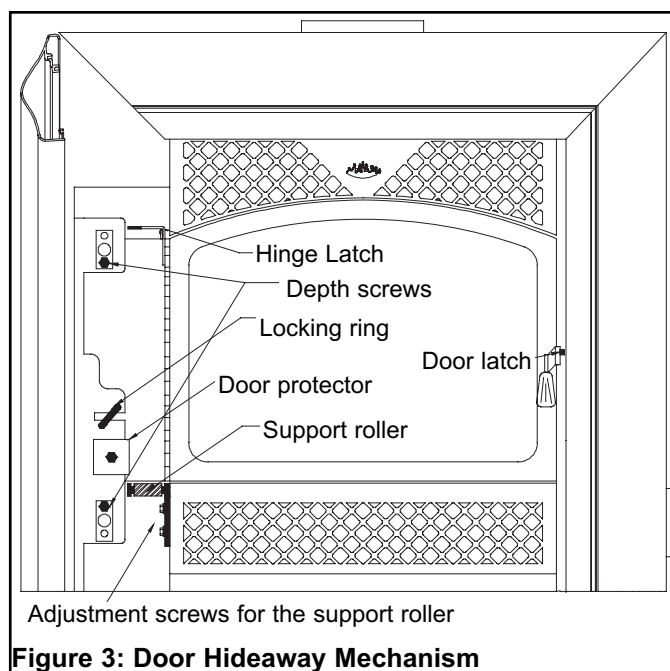

Figure 3: Door Hideaway Mechanism
understood. Please refer to Figure 3 while reading the following instructions.
Start by opening the left extrusion, using the handle at the bottom of the extrusion. As shown in Figure 3, there is a latch at the top that locks the door hinge against the left side of the firebox to position the door for regular door operation. Unlocking this latch enables the door to rotate around a special hinge to move the door away from the left side of the firebox. To lock the latch, make sure the door hinge is flat against the left side of the firebox. We recommend that the door be closed first and then the latch locked on the hinge. The latch operation requires some force but if excessive force seems necessary, then some adjustment is required.
There is a locking ring about halfway up the door (see Figure 3). It locks the door support in place during normal door operation. To unlock it, simply turn it counter-clockwise until horizontal. To lock it, simply pull the door mechanism completely out and turn the lock ring clockwise until vertical. If the locking ring is too tight or too loose to lock, please refer to the Door Adjustment paragraph in the Maintenance section of these instructions.
1. With the door properly closed, unlock the locking ring by turning it counter-clockwise until it is horizontal (see Figure 3).
8. Now hide and unhide the door while looking carefully at the door. If you find that the door binds up excessively when you are sliding the door in and out, you need to adjust the height of the door support roller. It is located beside the bottom depth screw as shown in Figure 3.